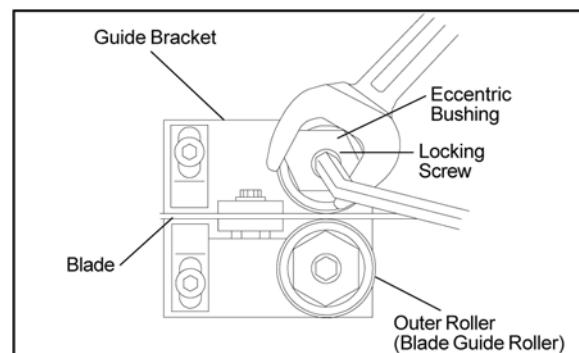

Figure 12: Adjustment of guide bearings
- Hold the bushing with a 3/4-inch wrench and loosen the center locking screw with an Allen wrench (see Figure 12).